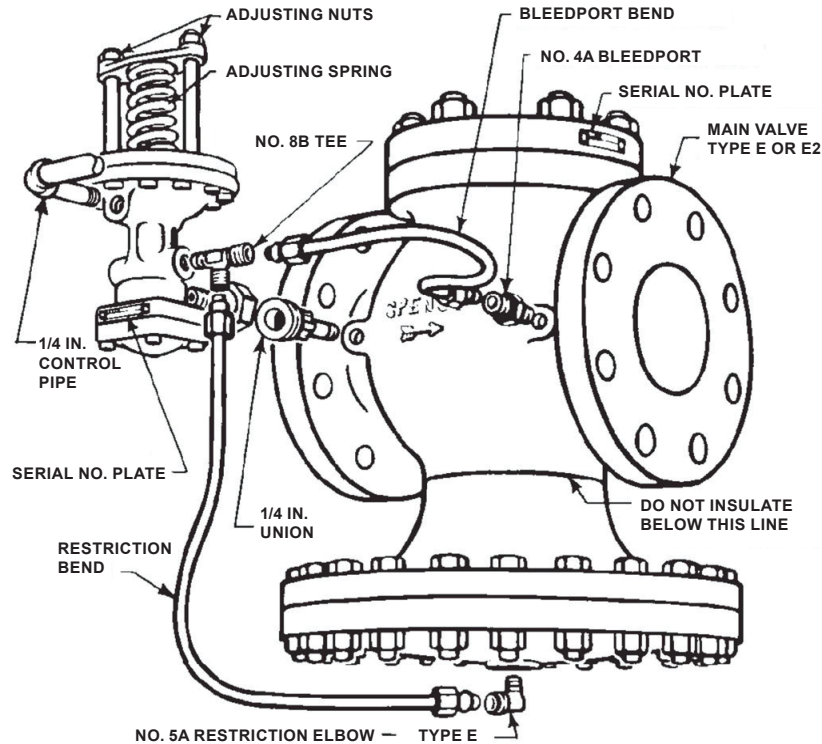

Figure 4. Mounting Pilot on Type E Main Valve
2. Make this connection on the 1/4 in. pipe tap at the inlet of the main valve as shown in Figure 4.
5. Connect tubing bends as illustrated in Figure 4. Valves with condensation chamber are fitted up according to Figure 4.
2. Close pilot by releasing compression on adjusting spring. See Figure 4.